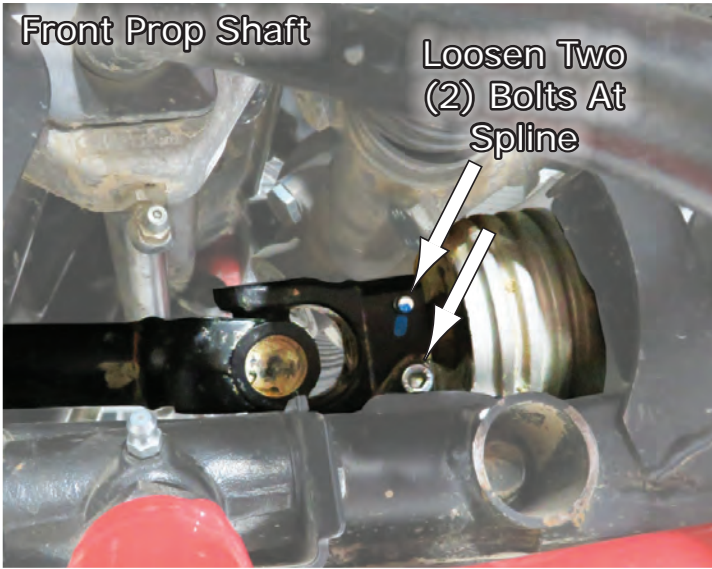
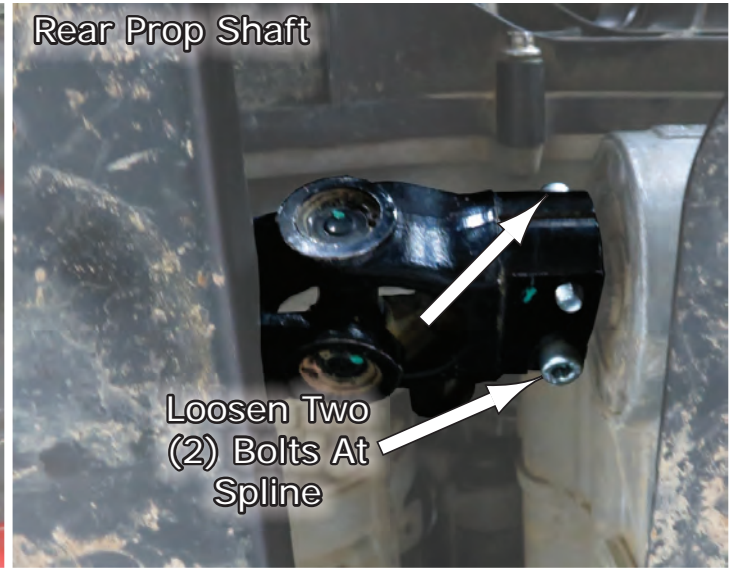

Fig.7a
Fig.7b
7. Now you will need to go under the vehicle where you can disconnect the front shaft by loosening the two (2) bolts at the front spline as shown in **Fig.7a**. Then do the same for the rear shaft. Loosen the two (2) bolts at the rear spline as shown in **Fig.7b**. This will get you ready for the removal of the Factory Prop shafts.